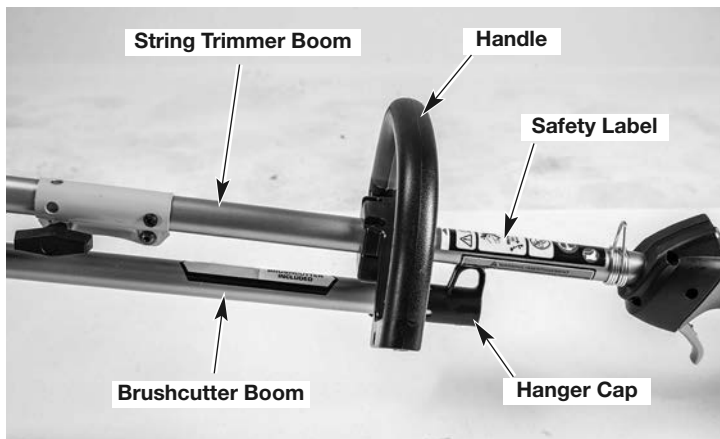

Fig. 2
1. Place the brushcutter boom under the string trimmer boom (Fig. 2).
2. Position the hanger cap on the brushcutter attachment just behind the handle (Fig. 2).
3. If necessary, adjust the position of the handle to the end of the safety label so the hanger cap and handle align properly (Fig. 2).